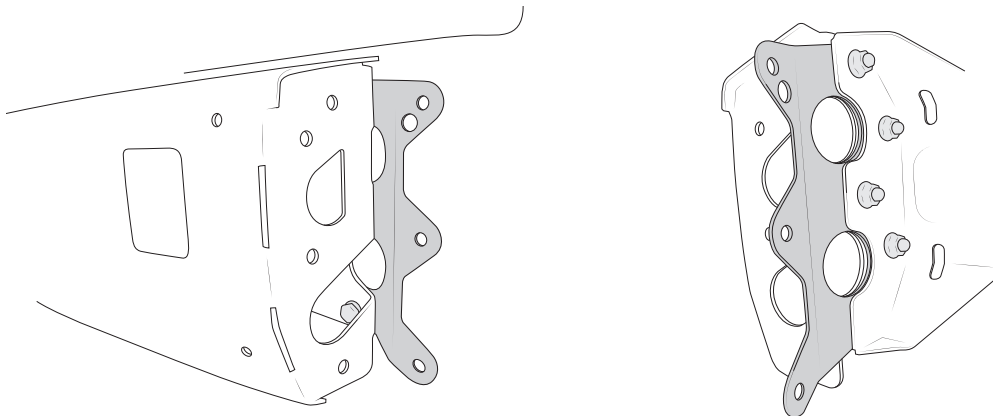

Figure 12 Left: Front View Right: Rear View
2. Install corner tie brackets in place between bumper and outer frame brackets as shown. In only the top 2 holes per side, feed silver M12 x 35mm bolts and washers in from front side through all three brackets, then install flange nuts on back side (fig. 12). Bottom bolts will get installed in next step.